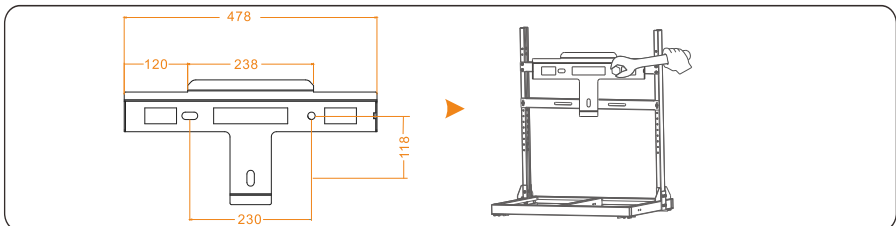

Figure 4.10 Securing a rear panel
Step 1 Support-mounting the inverter is recommended. Tighten the support and rear panel using M12 bolt and the required torque is 42N.m, as shown in Figure 4.10.